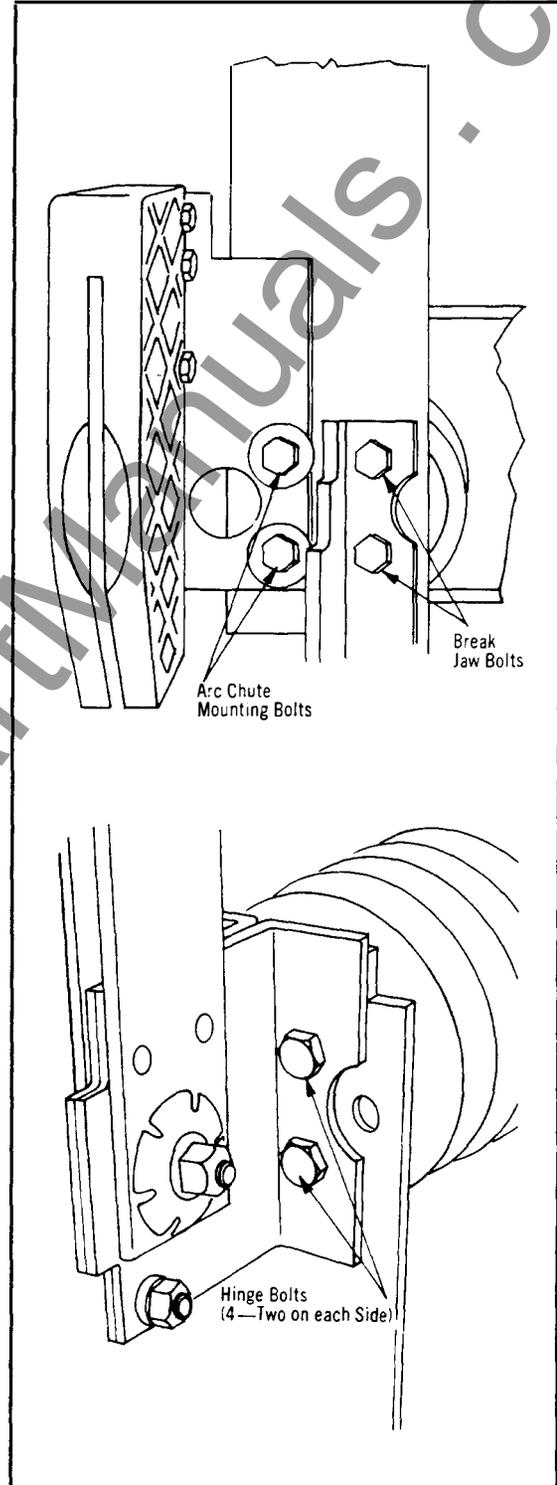

Fig. 18 Main Blade and Arc Chute Alignment
5.2.3 Main Blade Alignment(Fig.18)
5.2.4 Arc Chute Alignment(Fig.18)